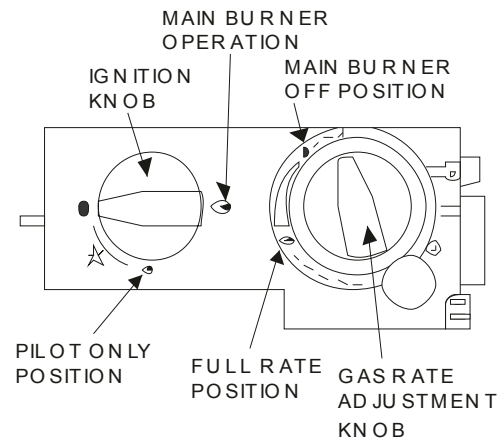

Figure 11 – Gas Valve
6. **Turn the IGNITION KNOB anticlockwise to the Main Burner Operation position as shown in Figure 11.**